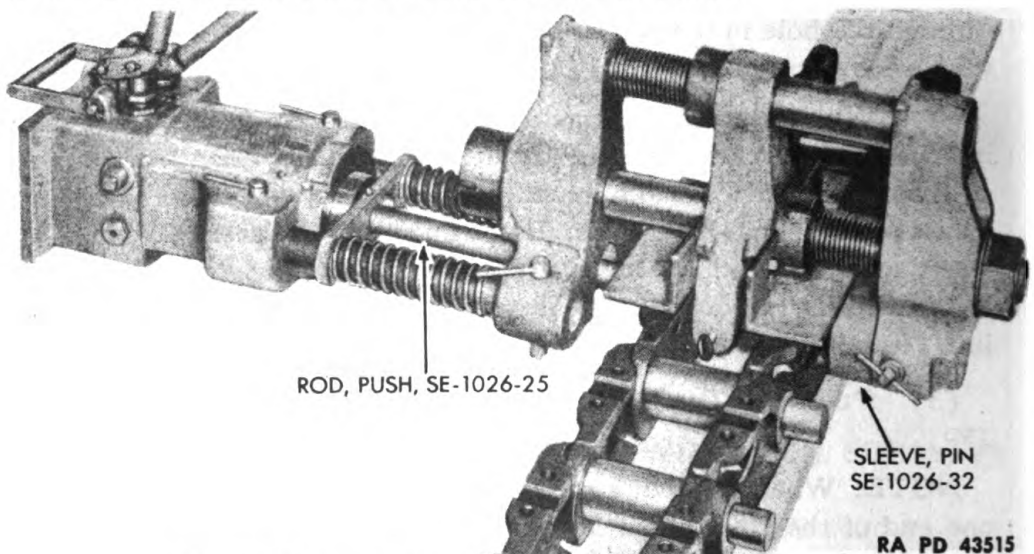

Figure 159 — Pushing Pin Just Out of First Link
(3) PUSH PIN OUT OF FIRST LINK (WITH SHOES REMOVED) (fig. 159).